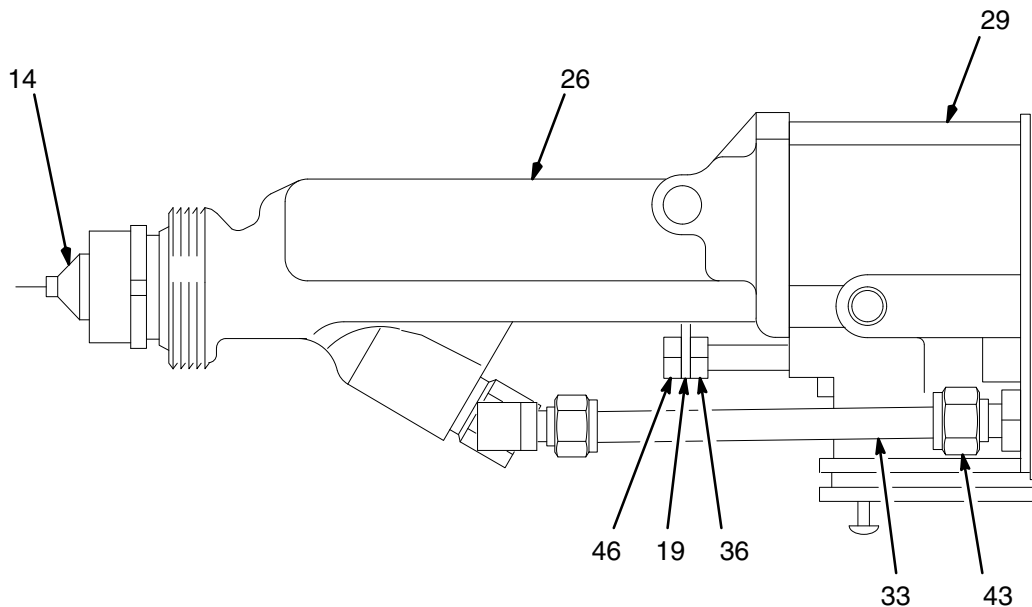

Fig. 30
3. Carefully loosen the fluid fitting nut (43). See Fig. 30. Pull the tube (33) out of the fitting. Make sure that both ferrules and the nut stay with the tube.
4. Remove the jam nut (46) and actuator arm (19).